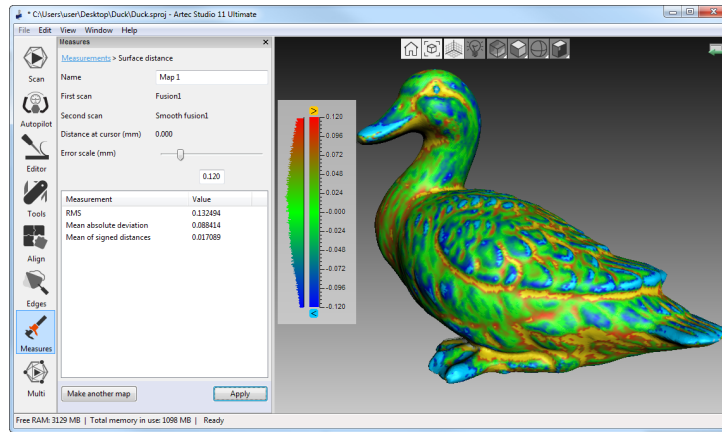

Figure 9.13.: Surface-distance map calculated for two models.
5. Click *Calculate*. Once the process is complete, the distance map will appear in the *3D View* window and the calculation results in the *Measures* panel (see Figure 9.13.).